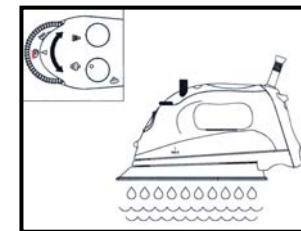

Fig. 8
5. Turn the variable steam control dial all the way to the right to the self-cleaning position and hold the iron horizontally over the sink. (Fig. 8)